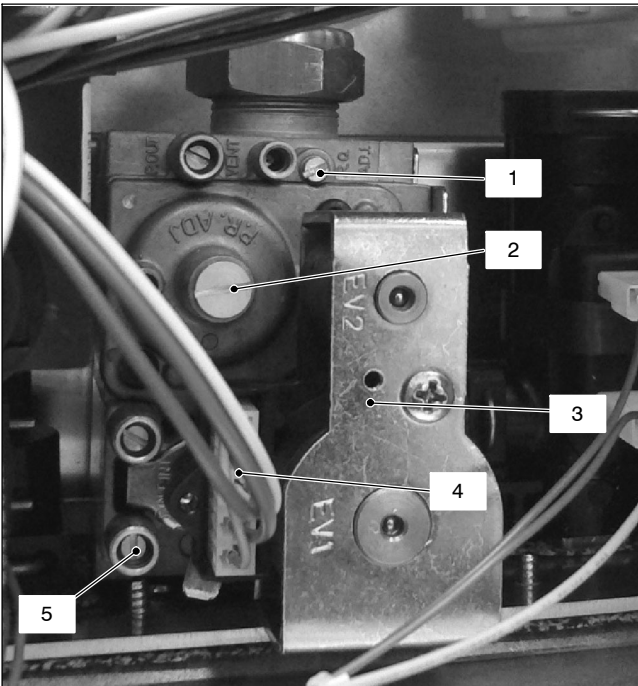

Fig. 11.2
11.2 Description of the parts (Fig. 11.2)
- 3 Loosen the internal screw on the Inlet Pressure Test Point 5 (Fig. 11.2) of the Gas valve and connect a pressure gauge using a suitable hose.
- 10 Disconnect the pressure gauge and close the Inlet Pressure Test Point 5 (Fig. 11.2).
To adjust the CO₂ % value remove the brass plug by unscrewing it and rotate the Allen key screw \varnothing 4 mm (2 – Fig. 11.2) (by rotating it clockwise the CO₂ % increases).
To adjust the CO₂ % value rotate screw (1 – Fig. 11.2) (by rotating it clockwise the CO₂ % decreases).
26 After adjustment fit the protective brass plug (2, Fig. 11.2).
- 2 Disconnect the electrical connector 4 (Fig. 11.2).